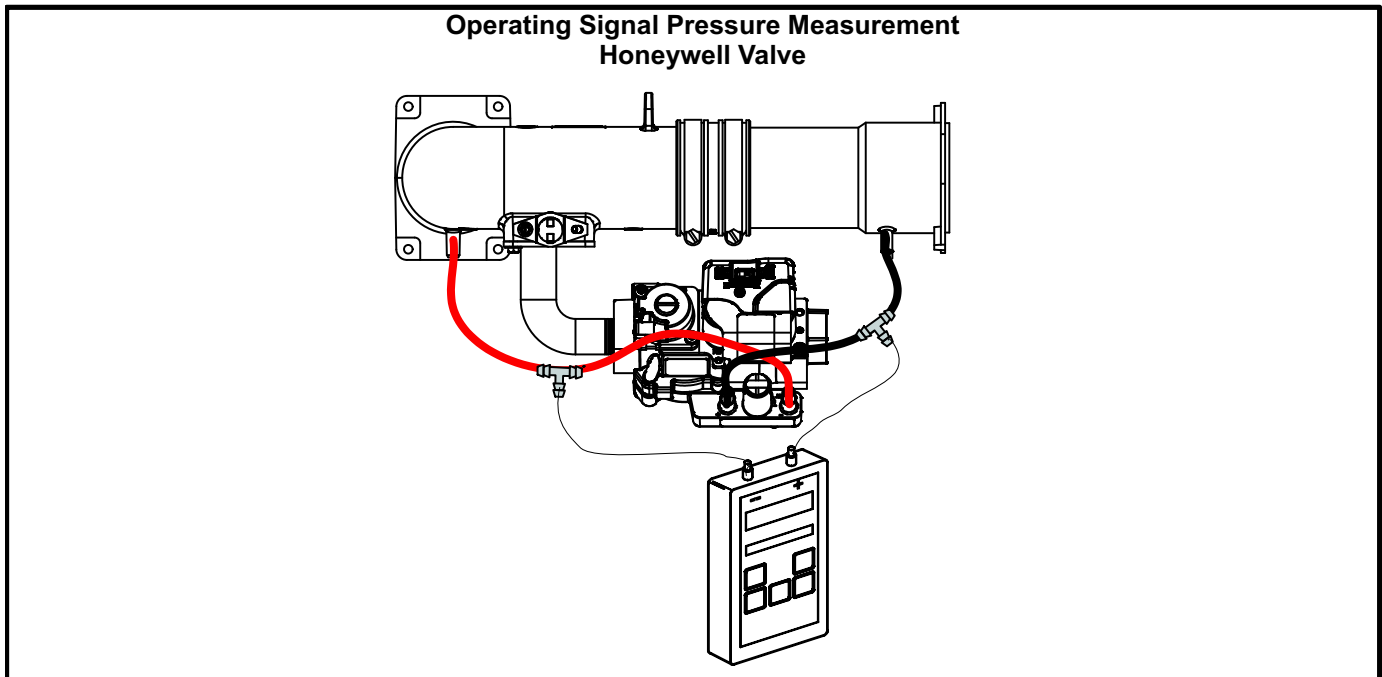

FIGURE 4
- 3 - Install hoses and meter as shown in figure 4 for signal pressure measurement.